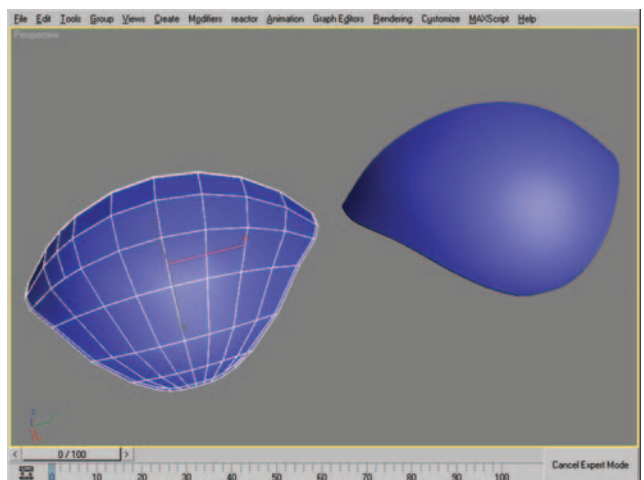

Figure 6.56 Five-sided N -gon and resulting subdivided mesh.
3. The first mesh seen in Figure 6.56 shows a wireframe view of a mesh